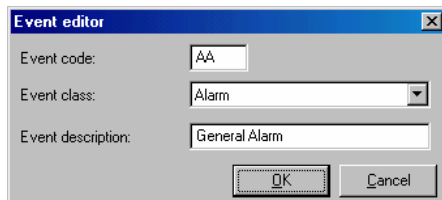

Figure 4 - New Event
- ◆ To create a new Event, press the bottom **New** button. Fill in the event Code; select a class from the drop-down list, and type a description to the event (e.g., Alarm zone 1). Press the **OK** button (see Figure 4).